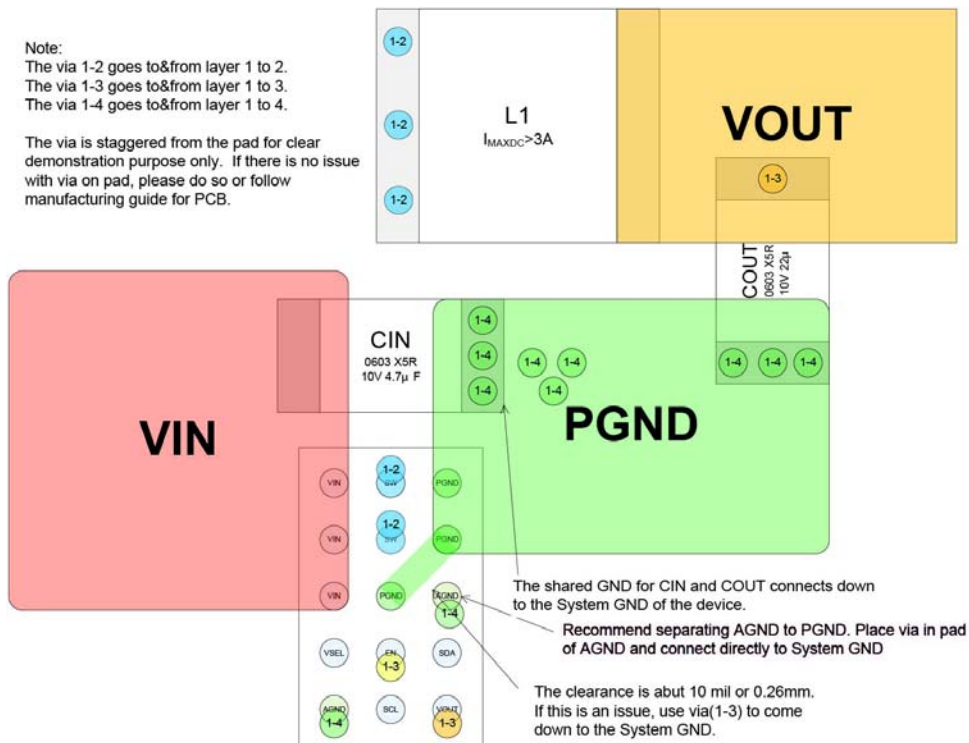
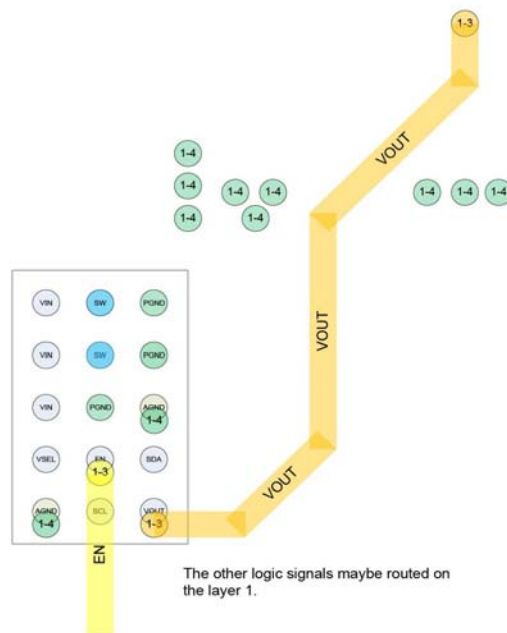

Figure 24. Guidance for Layer 1
Figure 26. Layer 3
1. The input capacitor (C_{IN}) should be connected as close as possible to the VIN and GND pins. Connect to VIN and GND using only top metal. Do not route through via (see Figure 24).
2. Place the inductor (L) as close as possible to the IC. Use short wide traces for the main current paths.
3. The output capacitor (C_{OUT}) should be as close as possible to the IC. Connection to GND should only be on top metal. Feedback signal connection to VOUT should be routed away from noisy components and traces (e.g. SW line) (see Figure 26).